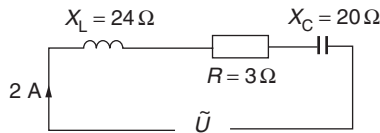

Fig. 8
17. For the circuit shown in Figure 8, the voltage V is